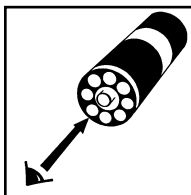

Figure 4
8. Place the VACUette ampoule, flat end downward into the center tube of the comparator. Direct the top of the comparator up toward a bright source of light while viewing from the bottom. Rotate the comparator until the color standard below the ampoule shows the closest match (fig 4). If the color of the VACUette ampoule is between two color standards, a concentration estimate can be made.